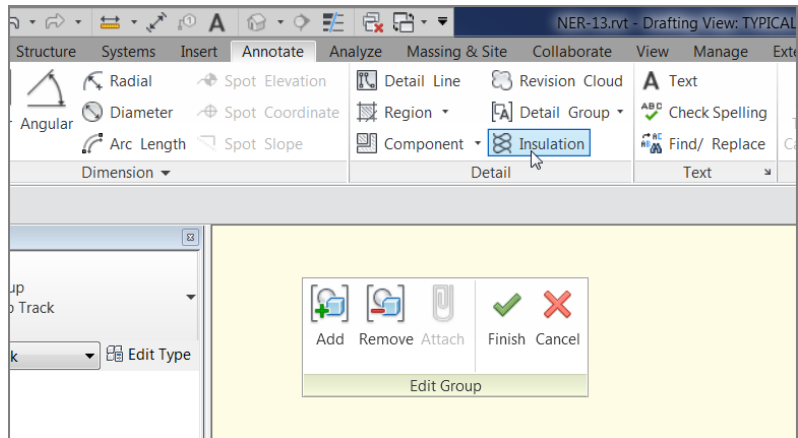

FIGURE 12.69: The Insulation button on the Detail panel of the Annotate tab
4. On the Detail panel of the Annotate tab, click the Insulation button, as shown in Figure 12.69.